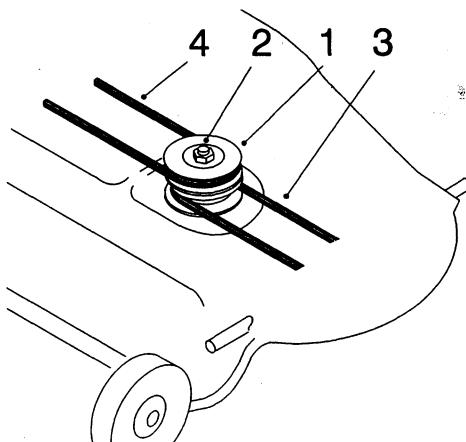

Figure 2
5. Slide the new double pulley onto the pulley shaft and secure it in place with a 5/8" lock washer and nut (Fig. 2). Make sure the word "TOP", stamped into largest pulley, faces up. Tighten the nut to 60-80 ft-lb.
ing the other end of the blower belt loose (Fig. 2).
7. Install the existing mower belt by rotating it onto the top pulley (Fig. 2).